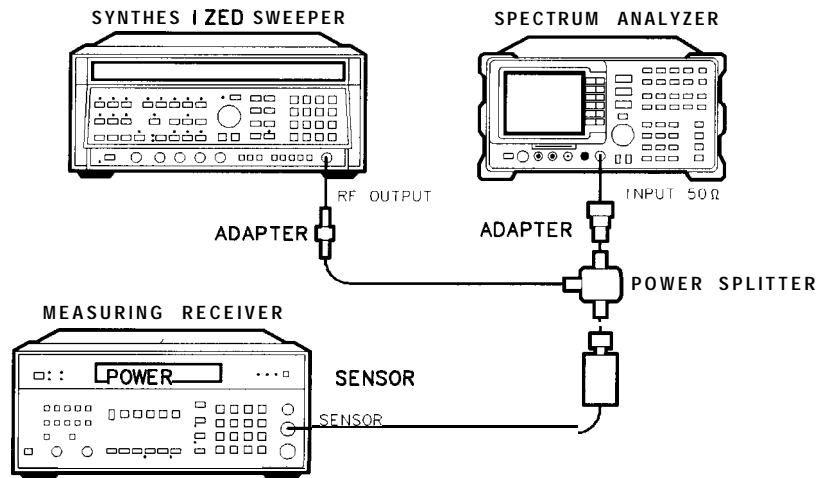

Figure 2-42. Other Input Related Spurious Responses **Test** Setup
3. Connect the equipment as shown in Figure 2-42. Connect the output of the synthesizer to the 50 MHz to 12.8 GHz power sensor using adapters.
**MKR FCTN** MK TRACK ON OFF (ON)